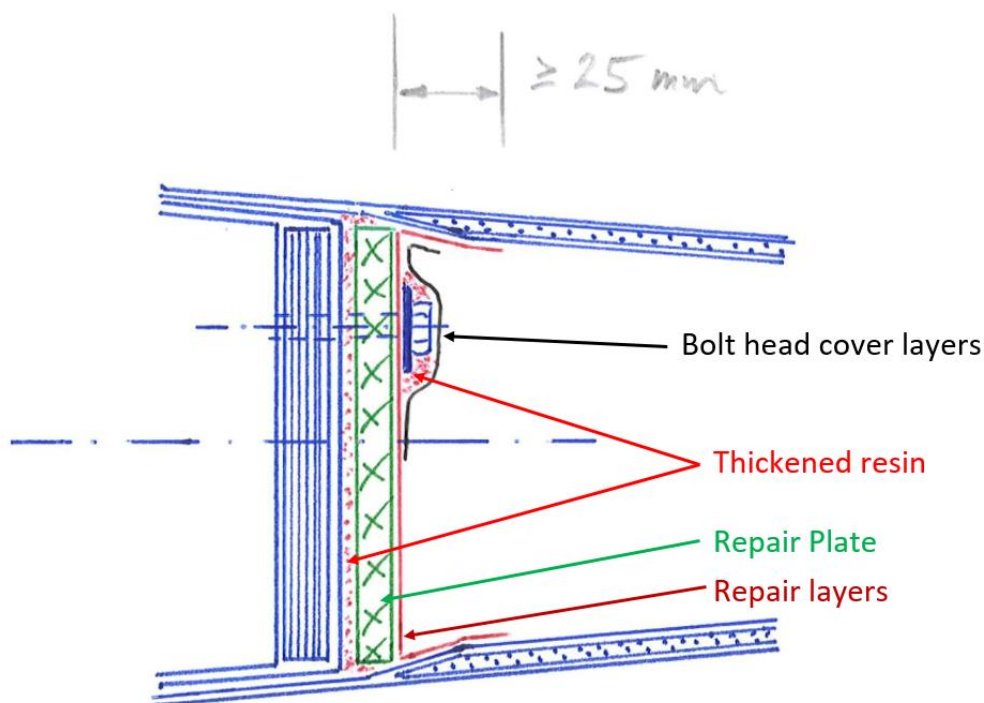

Figure 4: Repair schematic elevator
- 7.1.15 Cover the insert along the spar with two layers of glass fabric GS510031 $\pm 45^\circ$, refer to repair schematic in Figure 4.